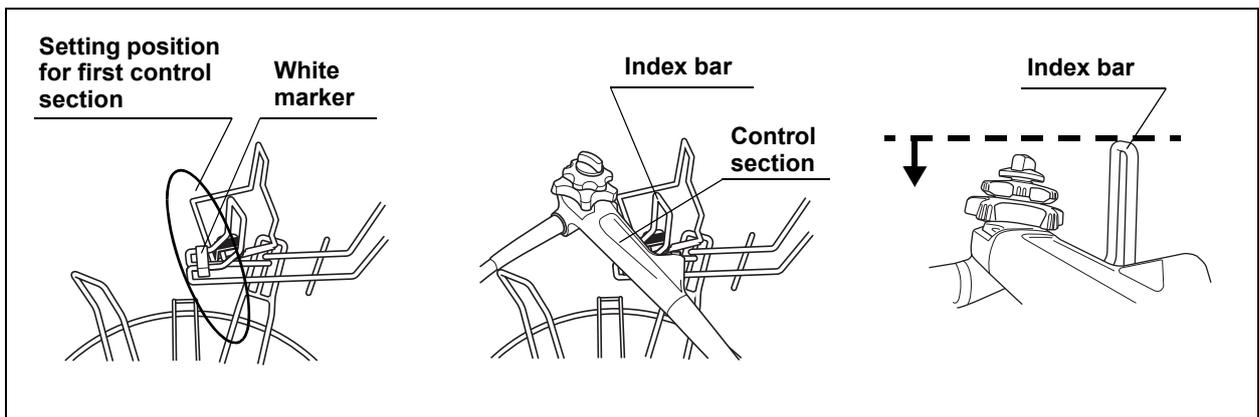

Figure 4.12
2. Gently place the control section of the first endoscope in the specified position (over the white marker) in the retaining rack ensuring that it is below the index bar (place the control section in the deep part of the reprocessing basin so that it will not be scratched) (see Figure 4.12).